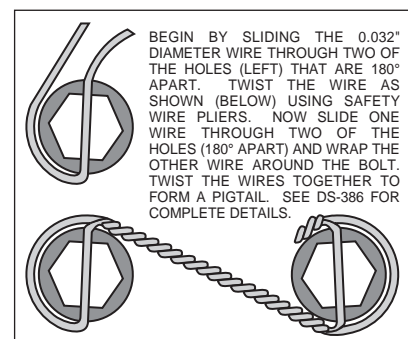

Figure 4. Safety Wire Diagram
- Dimension from wheel side of axle flange to wheel side of axle housing flange (see Figure 4, lower right hand corner). This dimension is critical to ensure proper alignment of the rotor to the caliper, and should match offset given in the kit description.
- With the slot pointing upward and the mounting ears pointing towards the rear of the vehicle, install the caliper mounting bracket (1) to the housing flange using the stock Original Equipment Manufacturer (OEM) bolts and nuts. Stock OEM hex nuts that retain the bracket (1) should be on the wheel side of the bracket. Apply red *Loctite*® 271 to the stock OEM bolt threads and torque to OEM specifications. **NOTE:** Some brackets act as the bearing retainers, while others help locate the bearing in the axle housing flange. If the stock bearing plates are still on the axle, the caliper mounting brackets (1) should be located between the axle housing flange and the bearing retainer plate. Make sure the heads of the caliper mounting bracket insert nuts are FACING OUTWARD TOWARDS THE WHEEL.
- Bolt the hat (2) to the rotor (3) using lock washers (4) and bolts (5). Torque bolts (5) to 180 in-lb. Safety wire bolts (5) using standard 0.032 inch diameter stainless steel safety wire as shown in Figure 4. Please refer to Wilwood's data sheet DS-386 (available at www.wilwood.com/pdf/ds386.pdf) for complete safety wire installation instructions.
- Align the correct hole pattern in the hat (2) with the stud pattern on the axle flange. **NOTE:** Some OEM and after market axles come with stud sizes larger than 0.50" diameter. Verify stud size and have a qualified machine shop drill the hats to the correct size. Slide the hat/rotor assembly (2 and 3) over the wheel studs and against the axle flange face.
- NOTE:** Please reference the caution statement at the beginning of the assembly instructions. WITH THE BLEED SCREWS POINTING UP, mount the caliper (6) over the rotor (3) and onto the caliper mounting bracket (1) using lock washers (7) and mounting bolts (8). View the rotor through the top opening of the caliper. The rotor should be aligned in the center of the caliper. If not, adjust the caliper by using 0.032 inch shim washers (9), placing them between the caliper mounting bracket (1) and the caliper (6). Apply red *Loctite*® 271 to the mounting bolt threads (8), torque bolts to 30 ft-lb. Safety wire the caliper mounting bolts (8).
- Position the Wilwood disc brake pads (10) into the caliper (6) and fasten with cotter pin (11). Steel backing plate side of brake pad should face the caliper pistons.